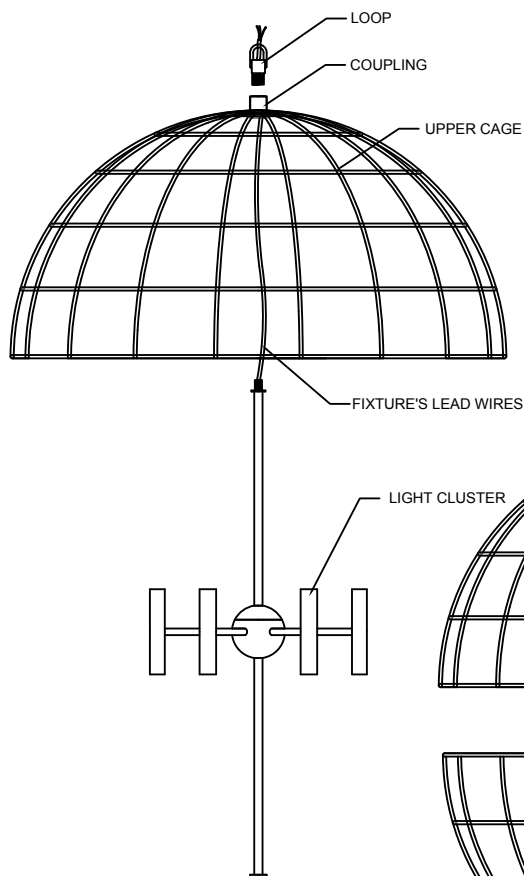

FIGURE-02
3. Assemble the upper part of the fixture. Attach the light cluster to the upper cage and secure using the loop. (See Figure -02)